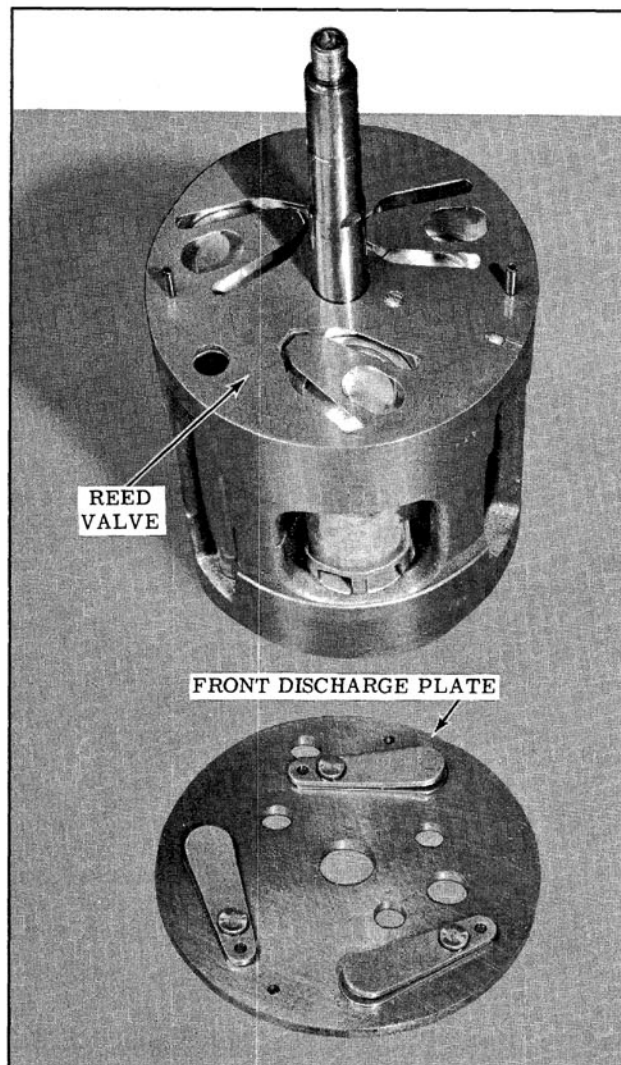

Fig. 14-111 Front Head Discharge Plate and Reed Valve
3. Remove the front discharge valve plate and reed valve assembly. Separate discharge plate from reed valve and inspect. (Fig. 14-111)